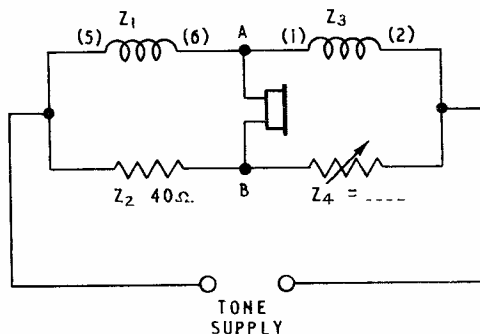

FIG. 2.
STEP 3. Connect the circuit as shown in Fig. 2.
STEP 4. Adjust the decade box until minimum tone is heard. Record the resistance value in Fig. 2.
WITH THE BRIDGE BALANCED (FIG. 2) THE VALUE OF R_4 WOULD BE...